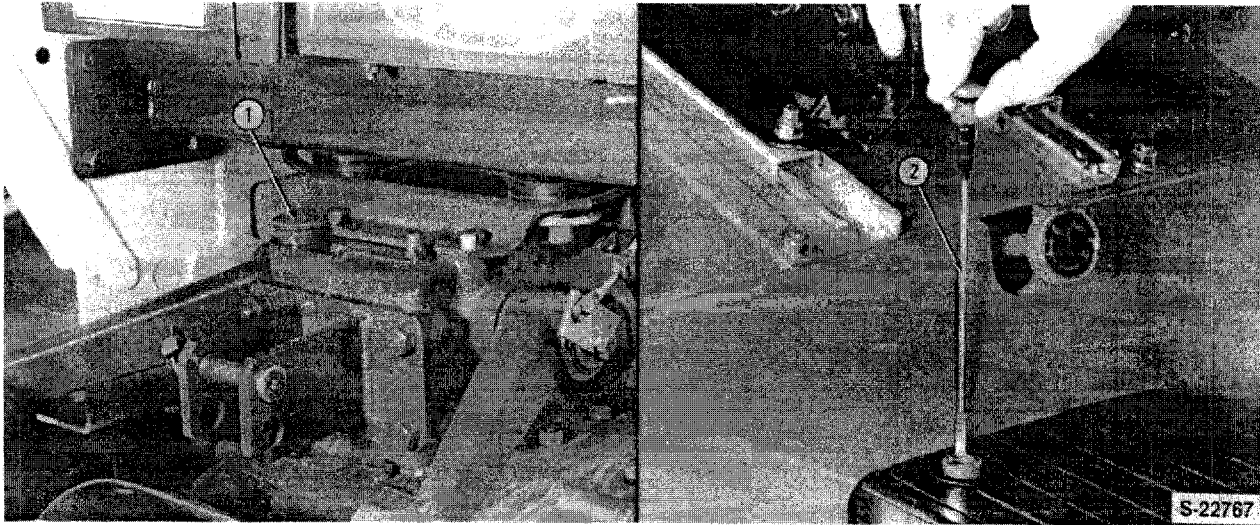

Figure 3
The oil fill plug (1), Figure 3, is located on the rear of the hydraulic lift cover. The oil level check dipstick (2) is located on the transmission cover.